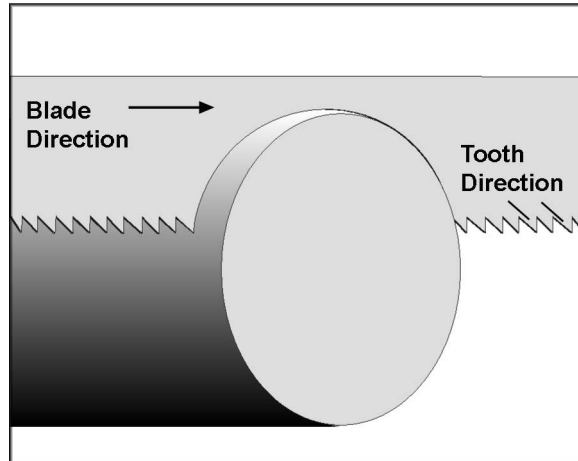

Figure 20
7. Install new blade on wheels, making sure the teeth point downward in the proper cutting direction. See Figure 20; also notice the blade direction arrow on the front of the bow.